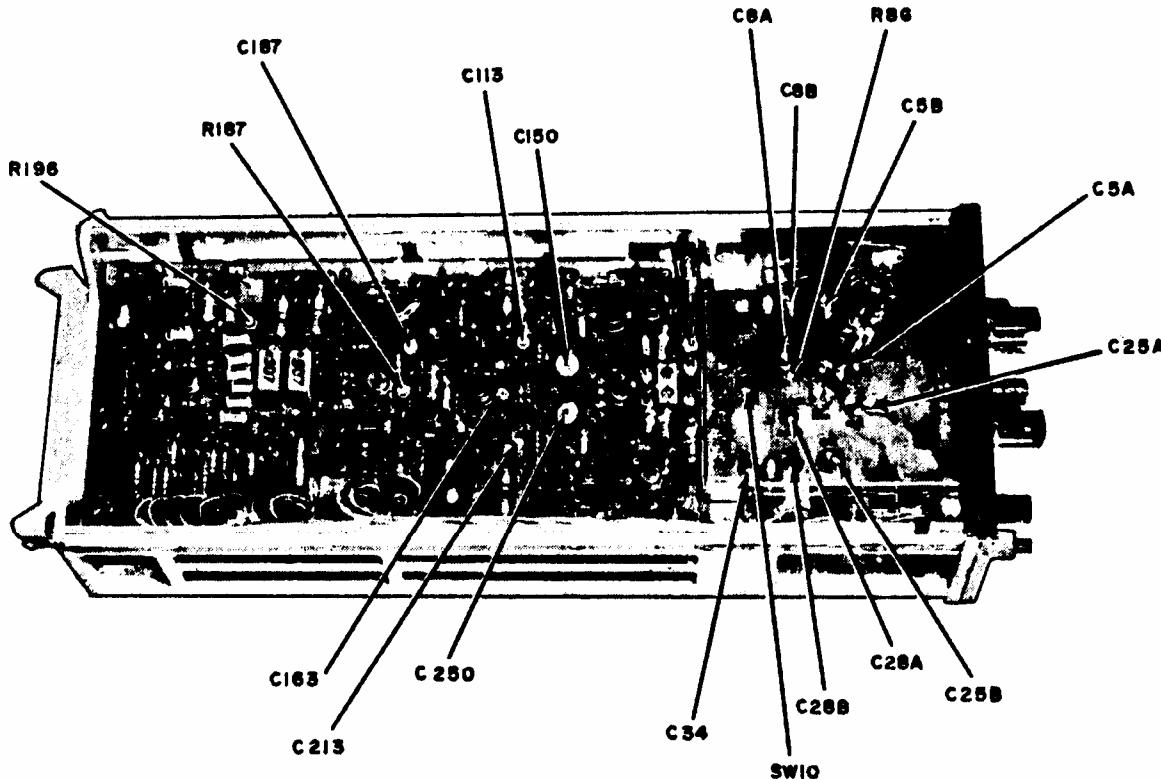

Figure 1. Adjustment locations - left side view (Type 7A13).
- (1) + and - polarity pushbuttons out.
- (2) VOLTS/DIV switch to 10 mV and VOLTS/DIV VARIABLE control to CAL (detent).
- (3) +INPUT and -INPUT pushbuttons to GND.
- (4) VOLTS counter set to 0.000 (cw 0.000 for TI's with electrical counter).
- (5) PULL VOLTS/DIV VAR FOR X10 Vc control pushed in.
- (6) VAR BAL control to midrange.
- (7) BW pushbutton to 5 MHz.
- (8) POSITION control to midrange.
- (9) X10 BAL control to midrange.
- (10) STEP ATTEN BAL control to midrange.
- (11) SW 10 switch (fig. 1) fully ccw ($R_{in} = 1 M\Omega$).
Test instrument VOLTS/DIV switch settings	Adjustments (fig. 1)